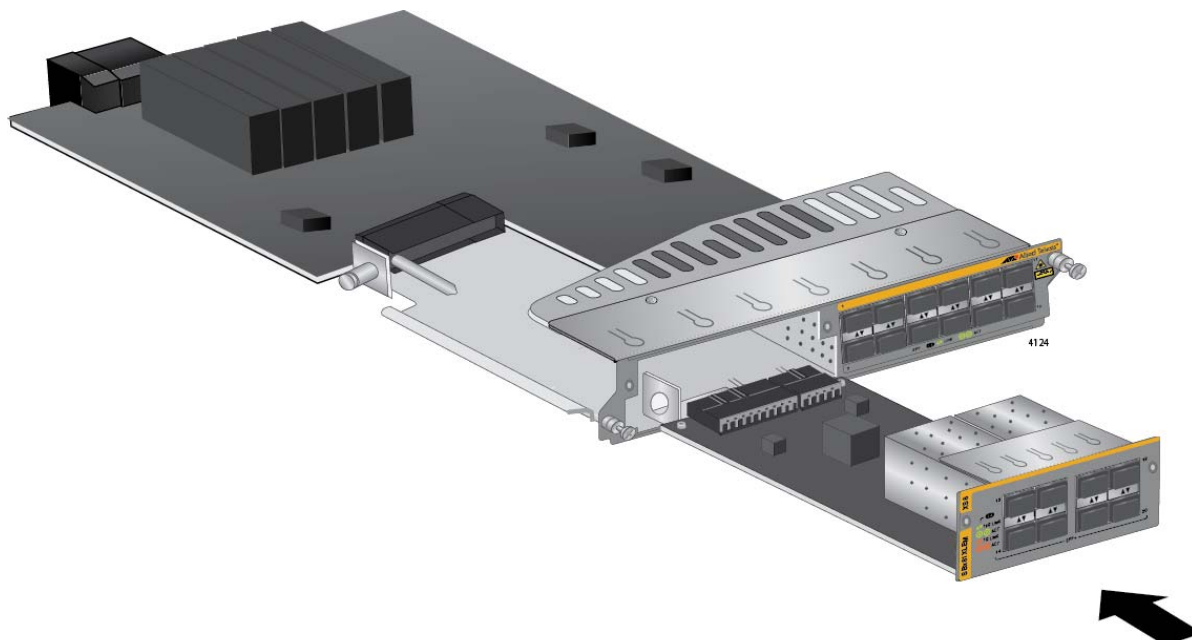

Figure 88. Sliding the Expansion Module into the AT-SBx81XLEM Line Card
- Carefully align the expansion module in the slot, as shown in Figure 88, and slide it into the line card.